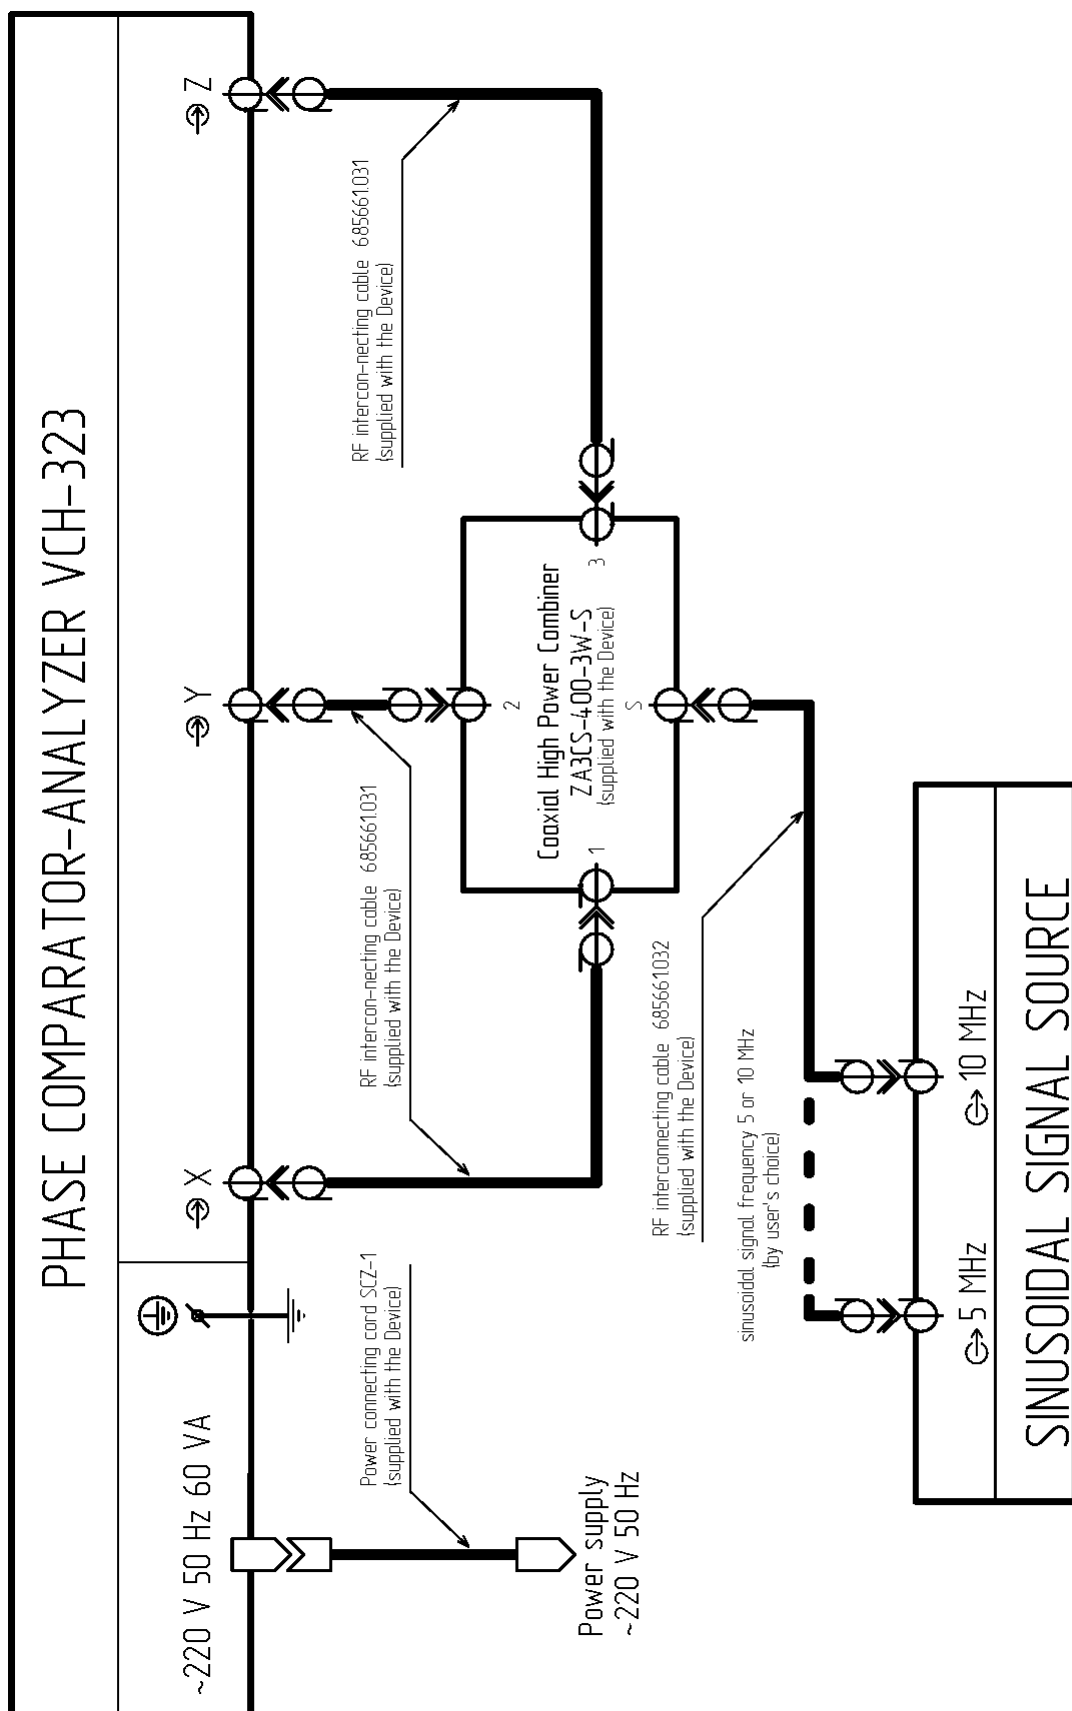

Figure 28. Noise floor checking configuration
6.4.2 For the frequency instability noise floor checking use the configuration shown in Figure 28.